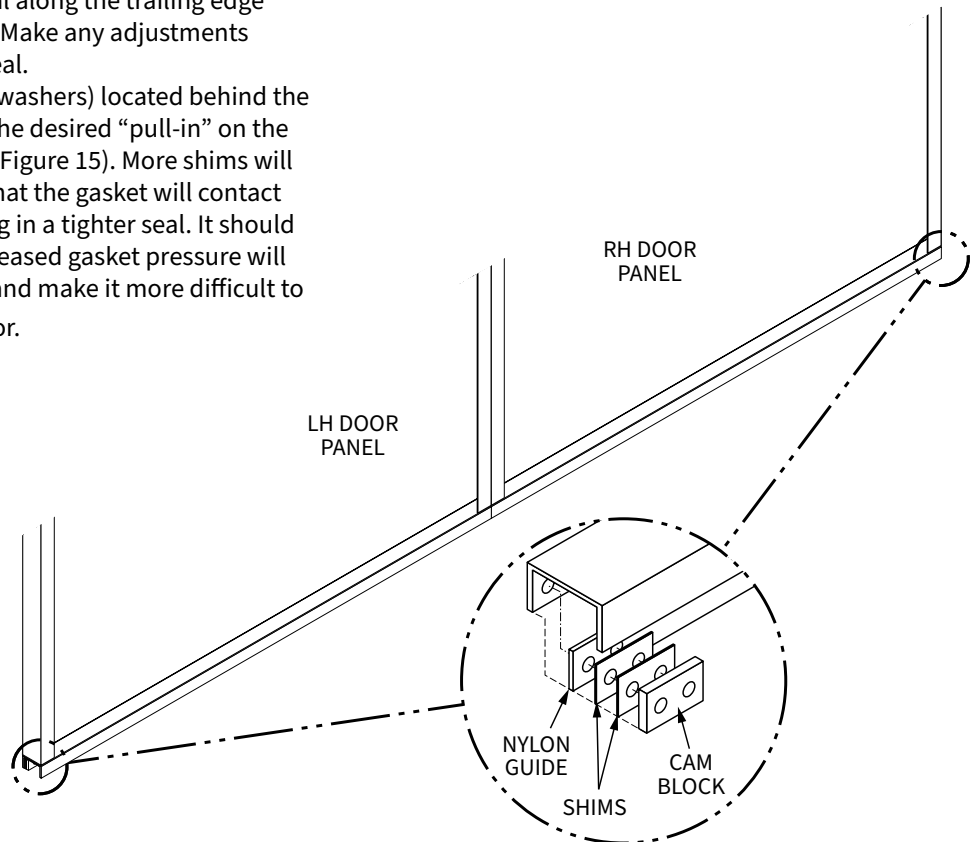

Figure 15: Shim Location
5. Add or remove shims (washers) located behind the nylon guide to adjust the desired “pull-in” on the leading edge of panel (Figure 15). More shims will increase the amount that the gasket will contact the face frame resulting in a tighter seal. It should also be noted that increased gasket pressure will reduce the gasket life and make it more difficult to manually open the door.